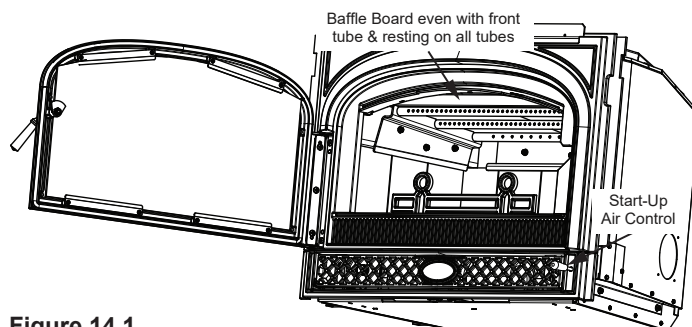

Figure 14.1
1. Confirm the baffle and ceramic blanket are correctly positioned. They should be even with the front tube and resting on all tubes (**Figure 14.1 and 14.2**).